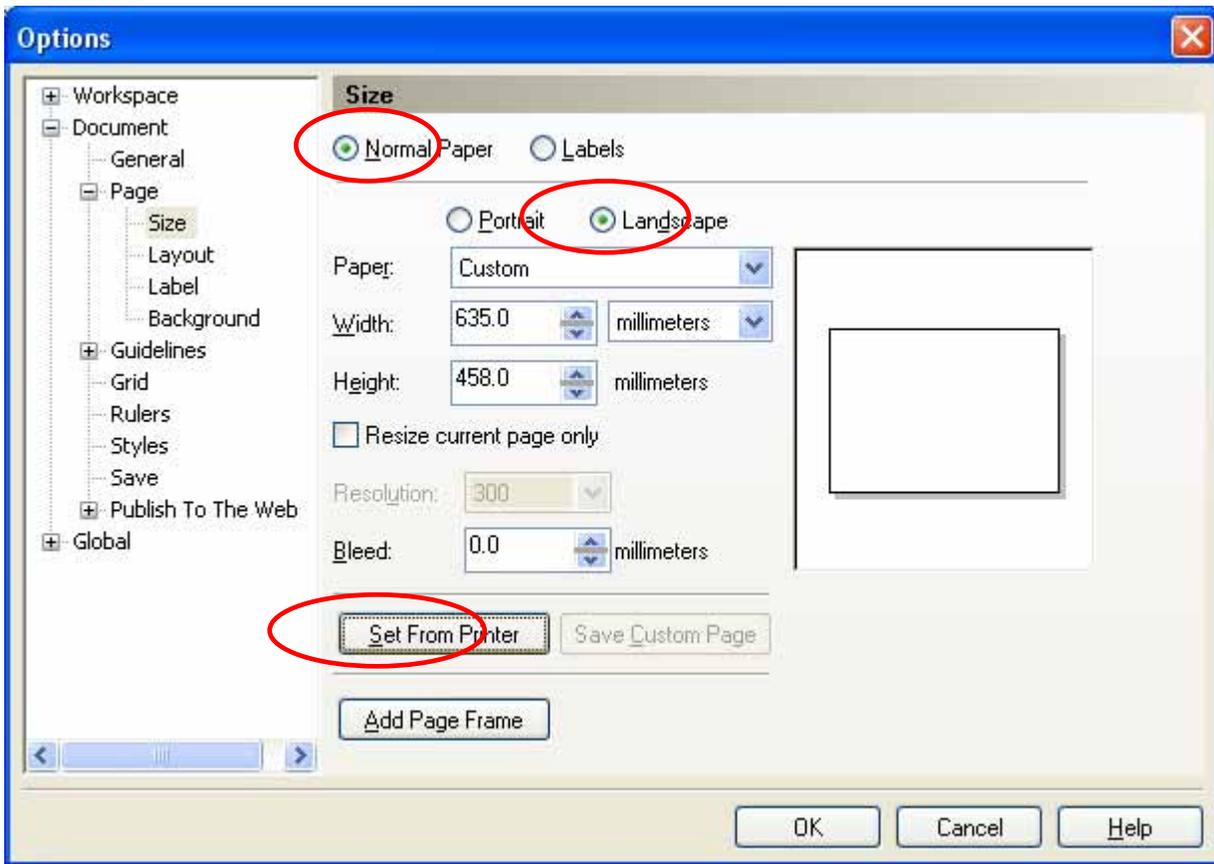

Fig. 6-2 Page Setup and Layout
- Using the SET FROM PRINTER paper option (see fig. 6-2)
- Click DOCUMENT → PAGE → SIZE (see fig. 6-2)
- Ensure that NORMAL PAPER and **LANDSCAPE** are selected (see fig. 6-2)